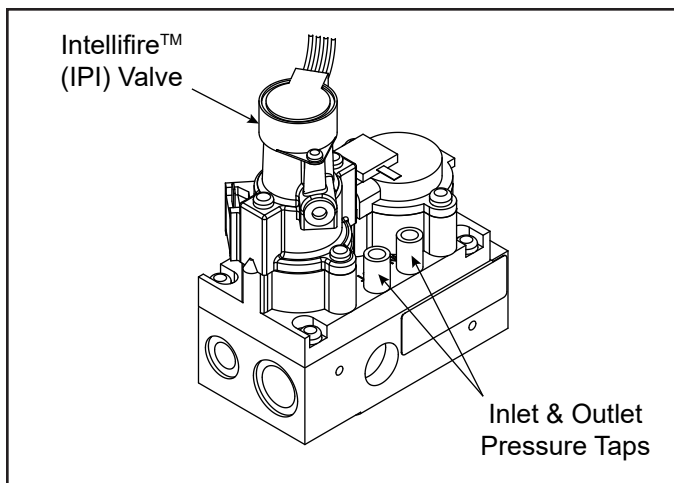

Figure 6.2 Pressure Taps
1. Turn captured screw counterclockwise two or three turns. See Figure 6.2.